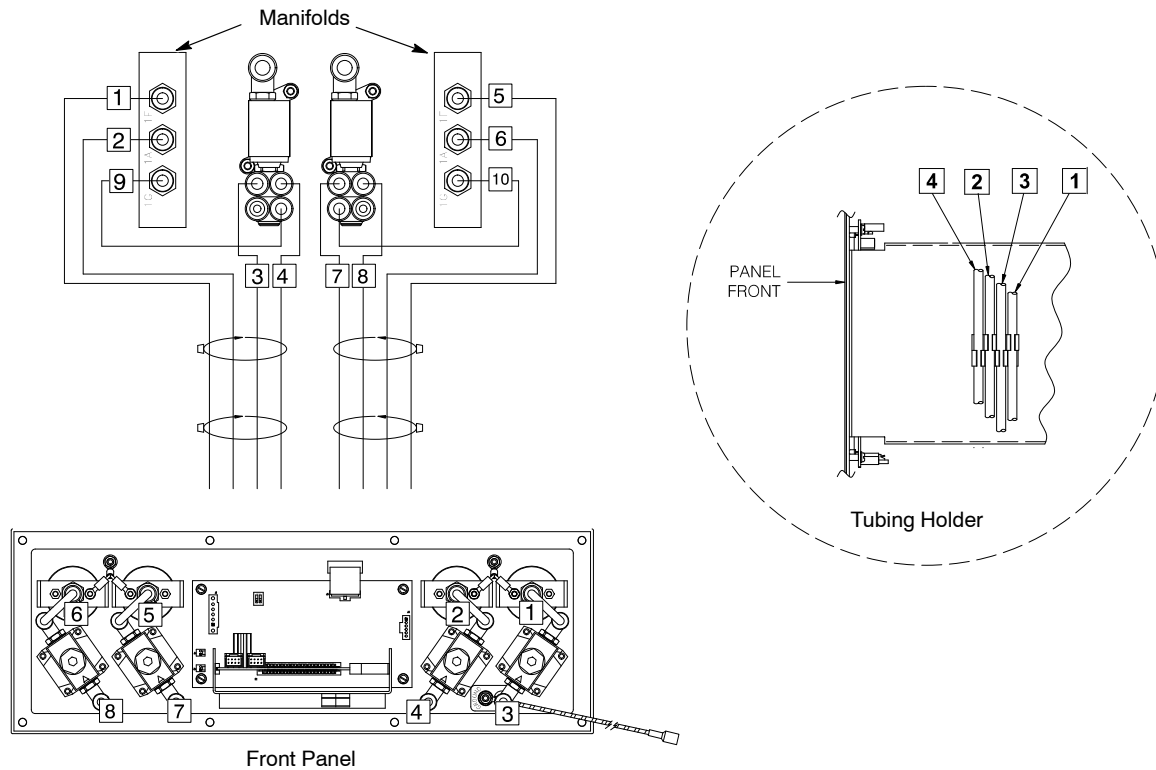

Figure 7-5 Routing the Air Tubing
1. See Figure 7-5. Route the 6-mm air tubes tagged 1, 2, 3, 4 from the manifold on the rear panel through the tubing holder on the bottom of the front panel assembly tray. Connect them to the odd-numbered air regulator and gauge.